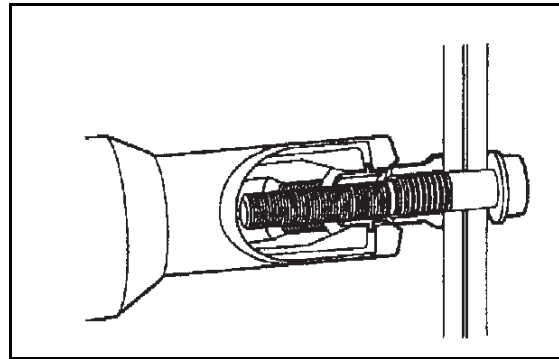

Figure 2.10 Place Installation Tool Over Fastener Pintail 01_0020
3. Place the Huck installation tool over the HP 8 fastener pintail (Figure 2.10)